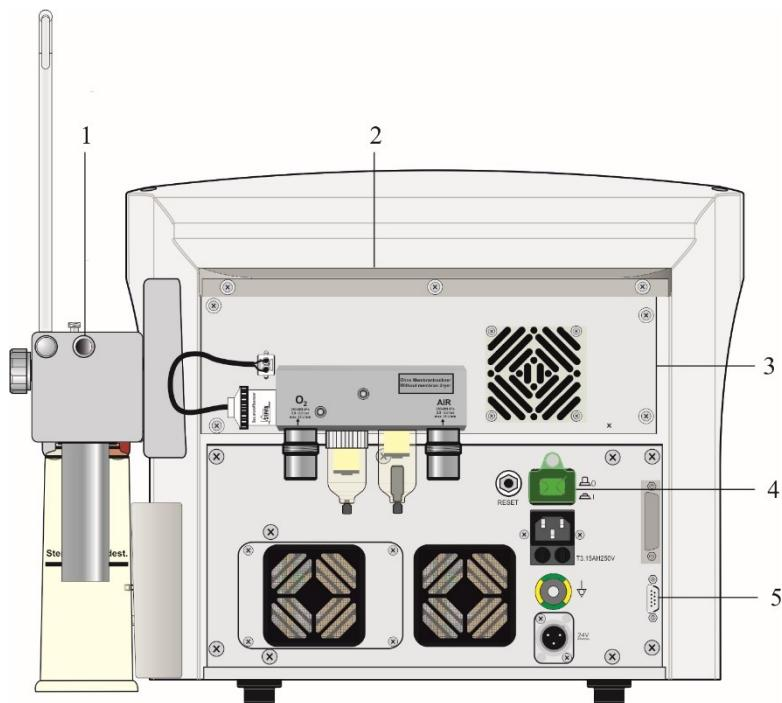

Fig. 25: Rear view
In order to be able to use the DP NEO PNT (from SW version PC 2.7x), the park position (item 1/Fig. 25) on the back of the patient component has to be modified. Otherwise a test of this PNT is not possible.